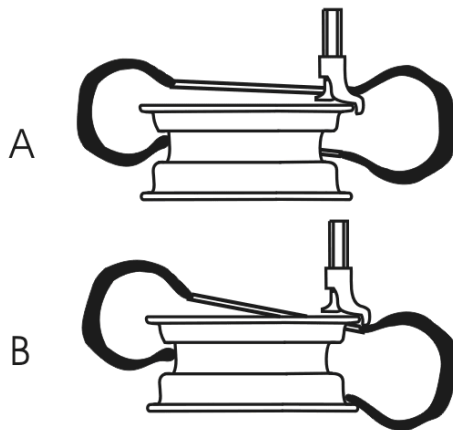

Fig.23
- Press down the central part of the tire. Depress the pedal L to turn the turntable clockwise, making the lower tire bead fall into the rim groove completely (as fig.23-A) .